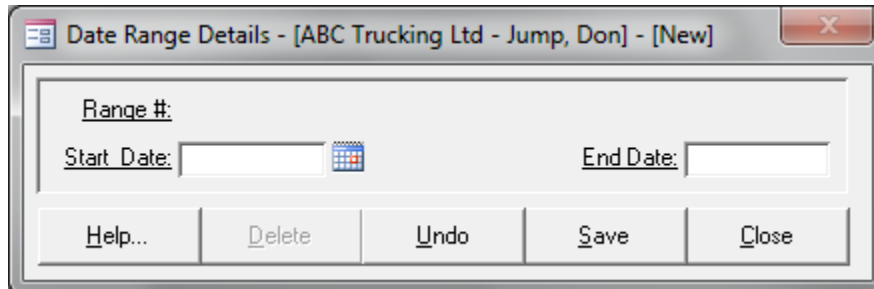

Figure 2: Data Range Details Screen
- From this screen select “New Range”. Now, the Date Range Details screen (Figure 2) will appear.